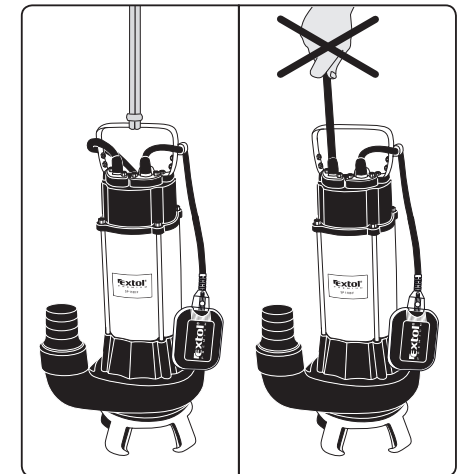

Fig. 5, illustrative figure
- Since, like standard pumps, the pump has a maximum submersion depth of approximately 7 m, the pump can also be submerged in deeper water sources. **It is not possible to lower the pump into deeper water sources or to pull it out by pulling on the power cord, but rather by a rope/cable properly attached to the pump's handle, see illustrative picture in fig. 5, because pulling on the power cord may result in damage to the seal around the cable at the point of its entry into the pump and the ingress of water into the electrical parts of the pump and to the injury or death of persons by electrical shock.**